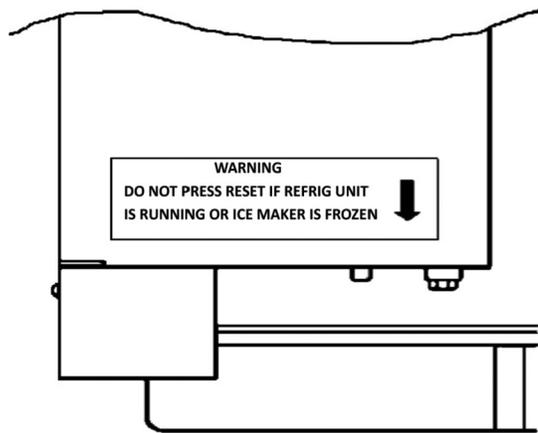

Figure 10. Gear Motor Thermal Overload
2. Gear motor thermal overload, manual reset type (red button on motor). See Figure 10.